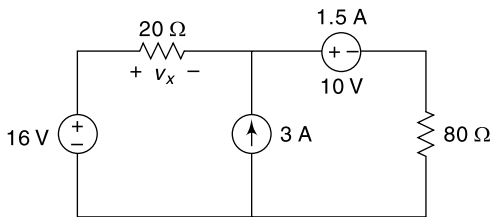

Fig. 4.192
31. Using superposition theorem find the value of V_x in the circuit shown in Fig. 4.192. [Ans: -46.8 V]